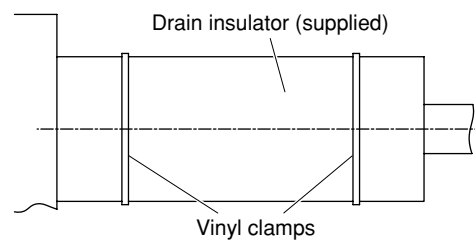

Fig. 3-26b
- (2) After checking the drainage, wrap the supplied packing and drain pipe insulator around the pipe, then secure it with the supplied clamps. (Fig. 3-26b)